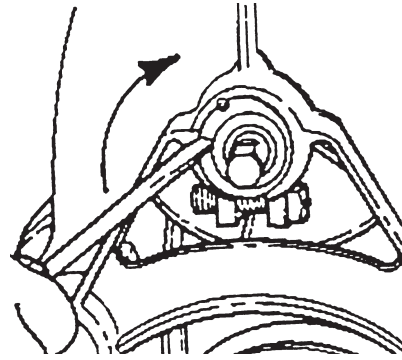

Figure 119
3. Insert a Straight Blade Screwdriver in the slot of the Eccentric Bushing and turn the Bushing clockwise in the Casting until it stops, as seen in Figure 119.